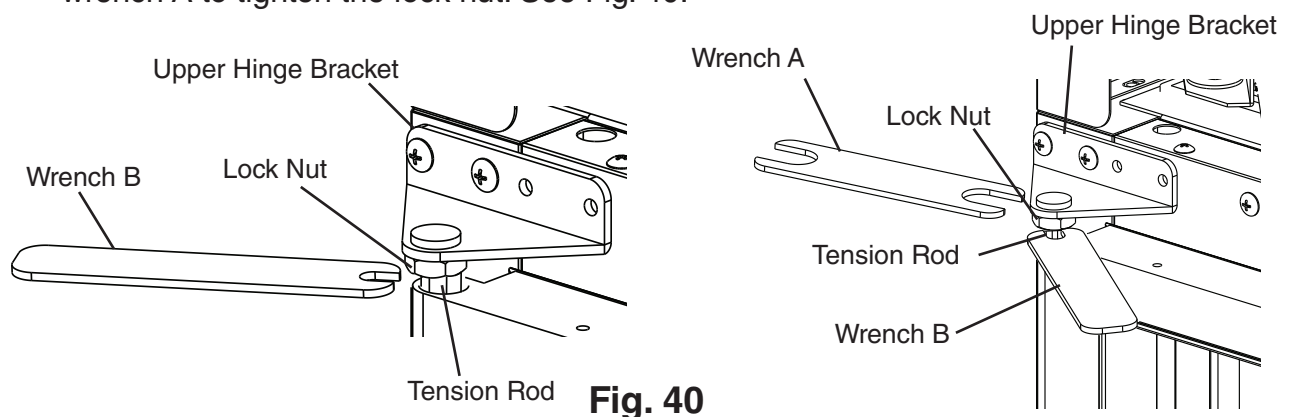

Fig. 40
- 21) Place wrench B on the tension rod and rotate counter-clockwise to add tension to the tension rod. Without releasing the pressure on wrench B and the tension rod, use wrench A to tighten the lock nut. See Fig. 40.